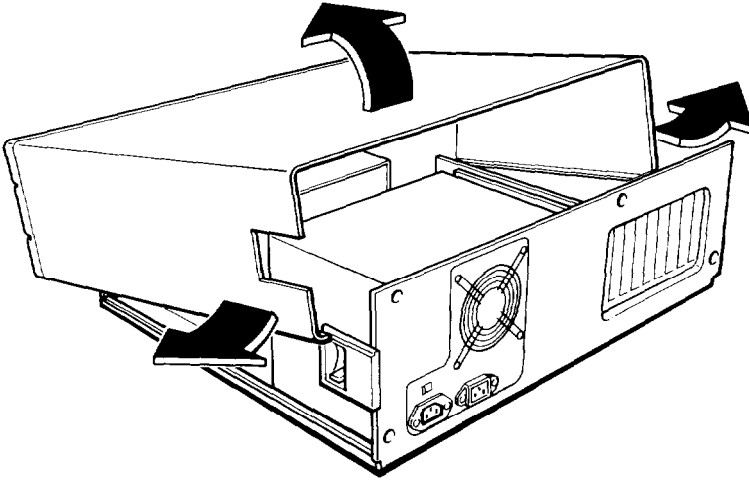

Figure 4-3. Removing the cover
5. When the back edge of the cover is a few inches away from the back panel, you can lift it off. Separate the sides of the cover from the bottom ledge of the computer by pulling them outward slightly, as shown in Figure 4-3. Then lift off the cover and set it aside.